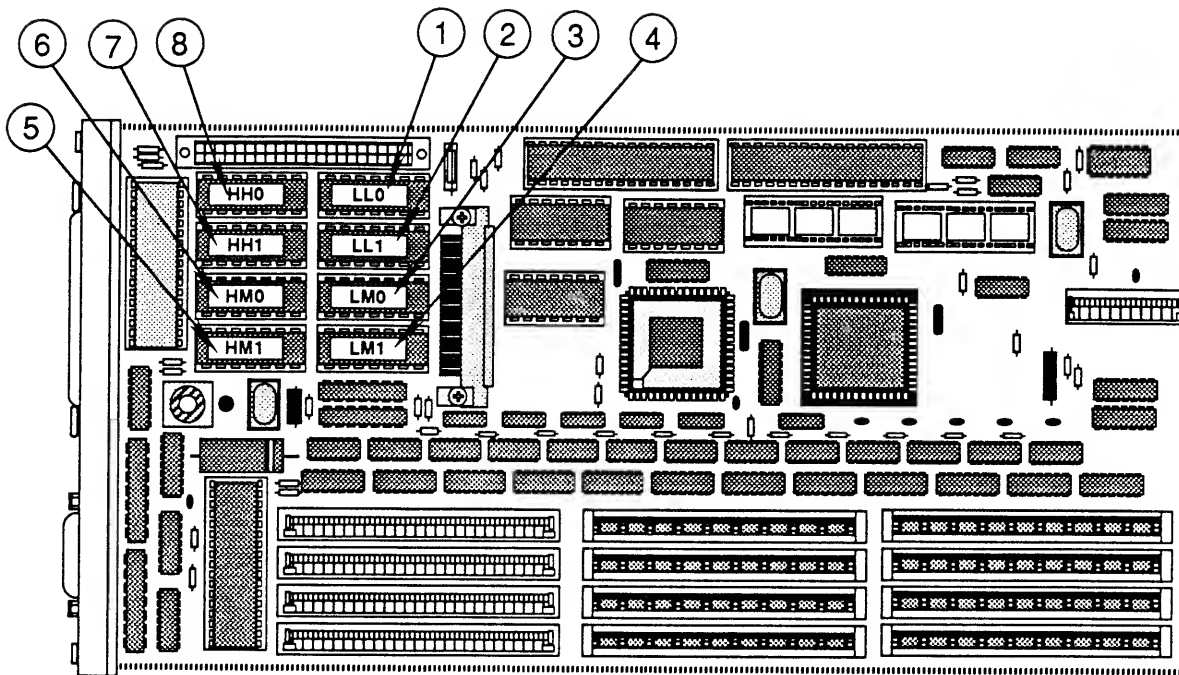

FIGURE 25
□ LW II NTX CONTROLLER-I/O BOARD (Figure 25)
□ LW II NTX CONTROLLER-I/O BOARD (rev. 3) (Figure 25)
Note: Figure 25 illustrates both the LaserWriter II NTX controller-I/O board and the LaserWriter II NTX controller-I/O board (rev. 3).